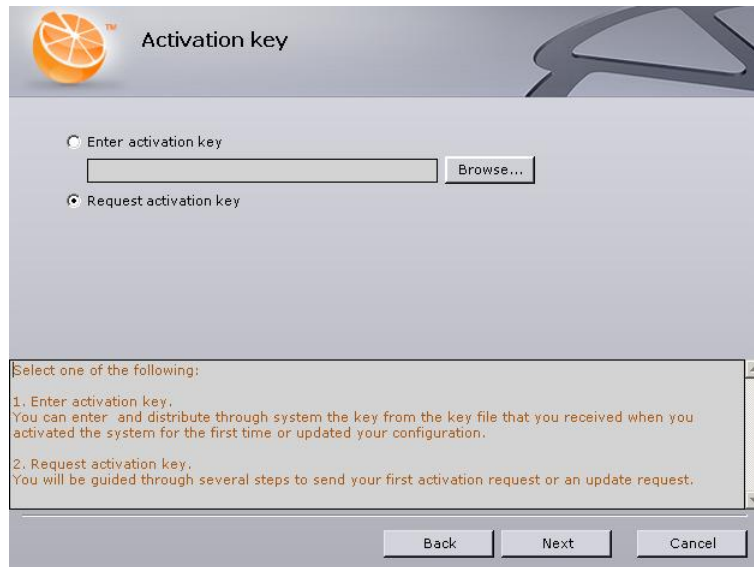

Fig. 4.7—16 Sending an activation key request
3. The **System configuration** dialog box will then appear, in which you should indicate how you would like to receive the updated system configuration (Fig. 4.7—17):